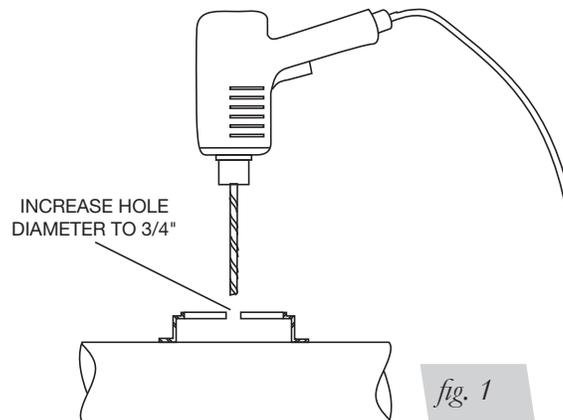

fig. 1
4. A 3/4" access hole must be made for the valve stem. Using the template on the last page, cut out the circle which best fits your model to center punch the lower spring seat for the hose/stem access. Drill a 3/4" hole, or enlarge the existing hole, in the center of the lower spring seat. Option: you can drill the hole out to 1/2" and grind larger as previously suggested. Remove all burrs and sharp edges (Fig. 1).